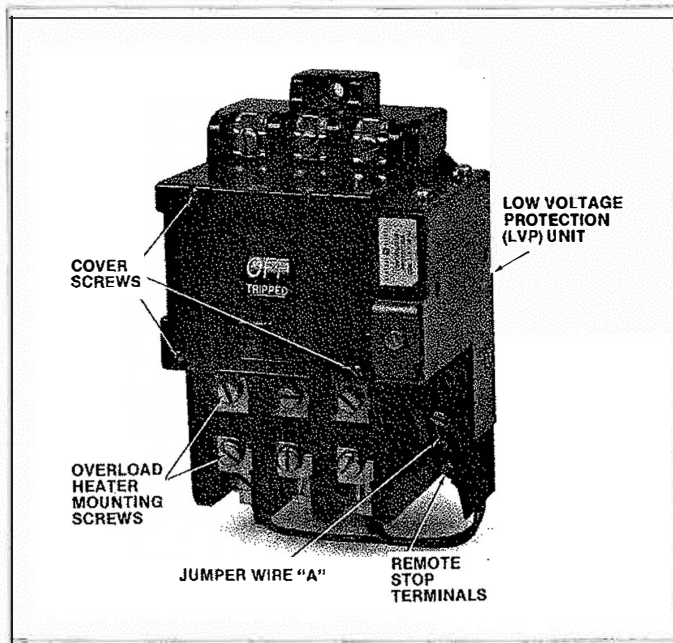

Figure 1. CR1062RL manual motor starter with low voltage protection
4. Select the proper overload heaters from the heater table provided with the starter and install where shown in Figure 1.
2. Locate the top clamp type terminals on the LVP unit. (Figure 1.)
3. Loosen the terminals and remove the jumper wire "A". (Figure 1.)